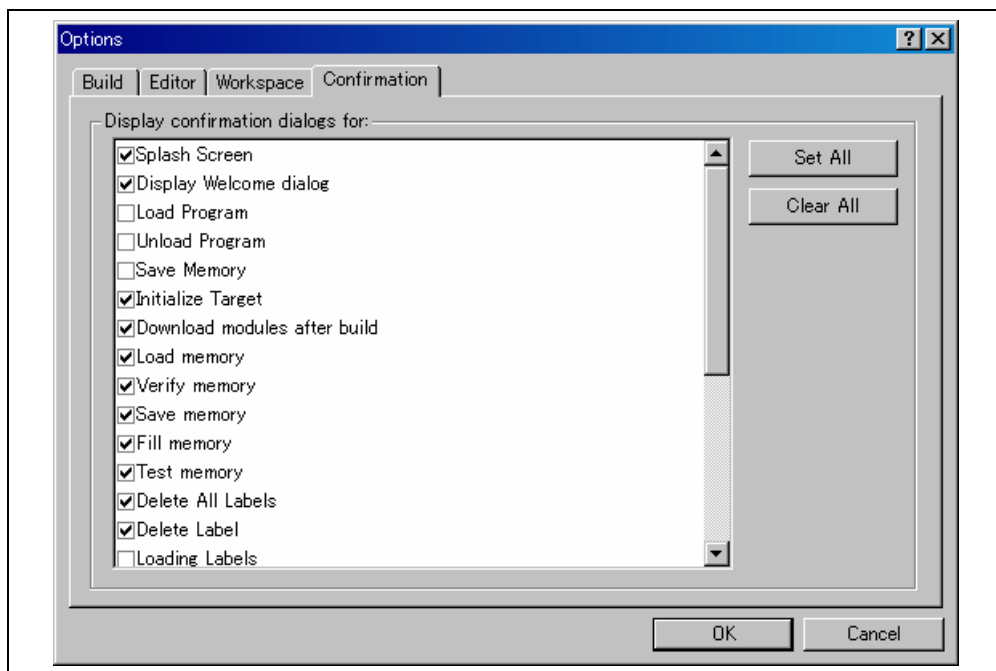

Figure 6.16: Confirmation Page for Optional Dialog Boxes
1. Select [**Tools->Options...**]. Then select the “Confirmation” tab (figure 6.16).